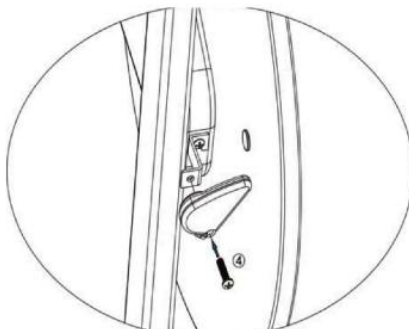

Fig. 2
2. Loosely attach Speed Sensor to Speed Sensor Bracket as shown (Fig. 2).